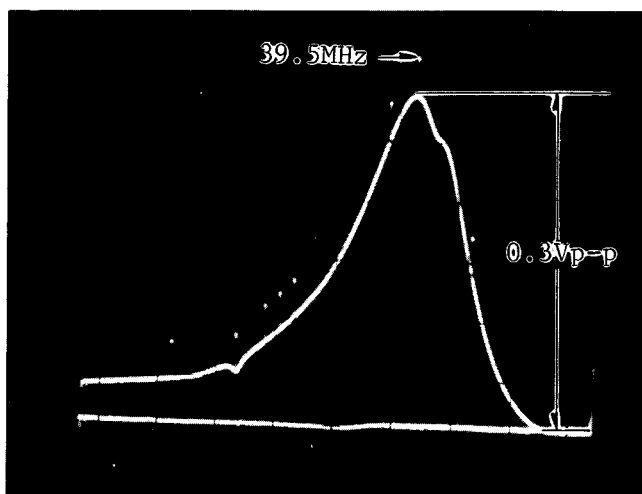

Fig. E14.
8. Adjust T705 so that the marker position of 39.5MHz becomes maximum as shown in Fig. E14.